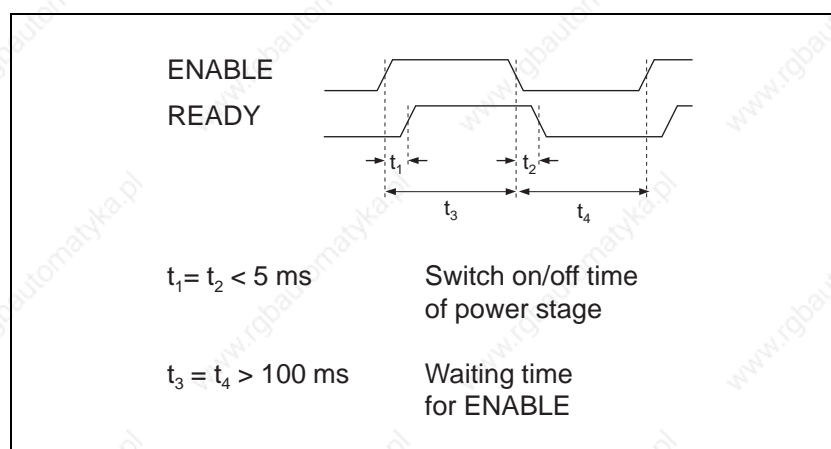

Figure 3-1
- ENABLE input active, see Figure 3-1.